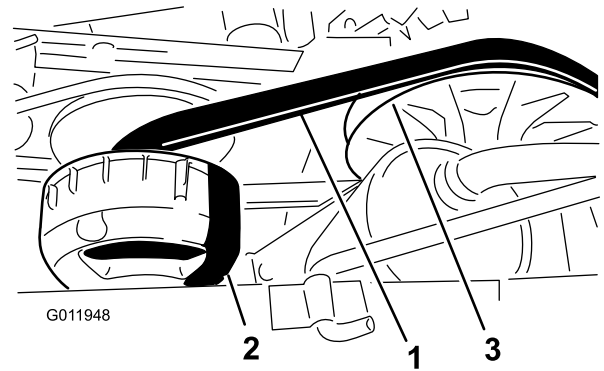

Figure 56
4. Rotate and inspect the belt (Figure 56) for signs of excessive wear or damage.
3. Rotate and route the belt over the secondary clutch (Figure 56).
4. Remove the belt from the primary clutch (Figure 56).
5. Align the new belt over the primary clutch (Figure 56).
6. Rotate and route the belt over the secondary clutch (Figure 56).